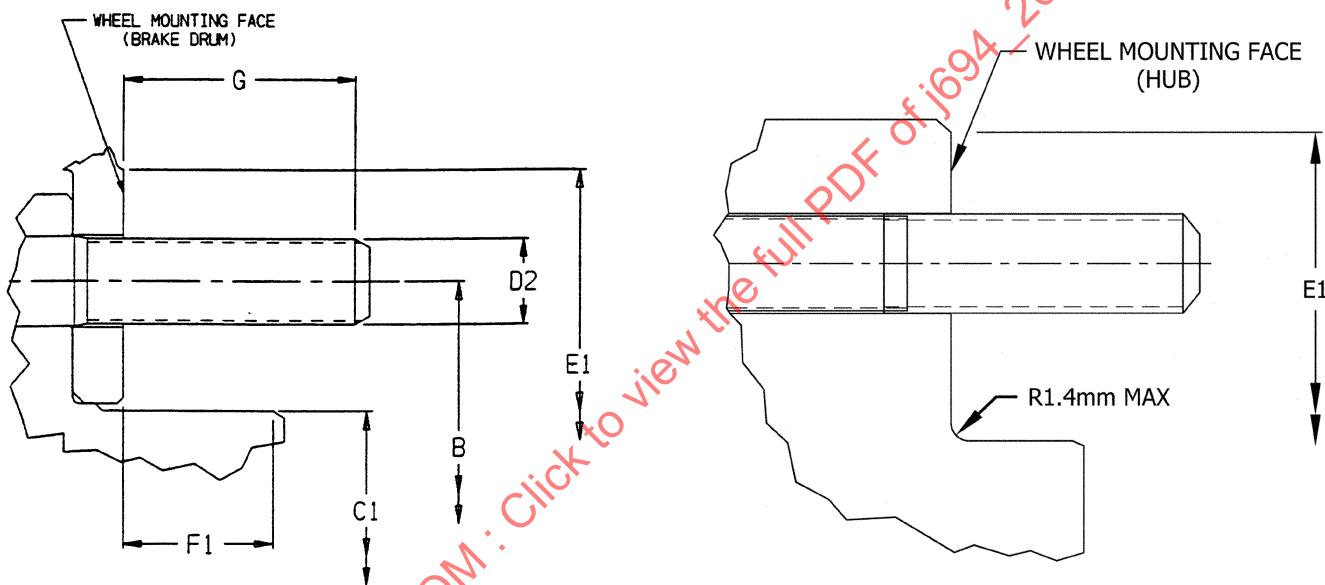

FIGURE 3—HUB OR DRUM INTERFACE DIMENSIONS
5.2.1 DEFINITIONS OF HUB OR DRUM INTERFACE DIMENSIONS—Reference Figure 3.